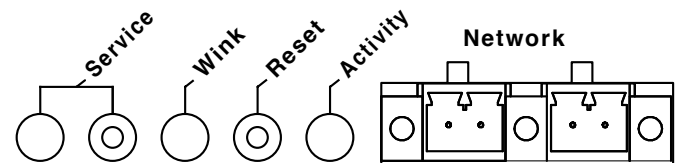

Figure 4.3. The RMS user panel
MICA's MPW-4/MICA amplifier contains an RMS user panel, as shown in Figure 4.3.
**NOTE:** The LEDs and buttons on the user panel of the RMS communication board shown in Figure 4.3 are used **exclusively** by RMS, and have no effect on the acoustical and/or electrical activity of the MICA loudspeaker itself — unless MUTE or SOLO is enabled at the board and from the RMS software.